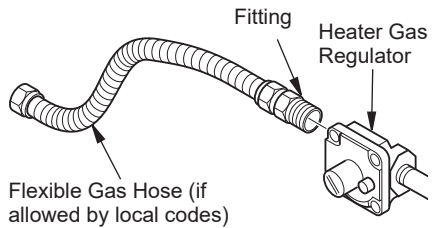

Figure 12 - Attaching Flexible Gas Hose to Heater Gas Regulator
5. Apply pipe joint sealant lightly to fitting threads. Connect approved flexible gas hose to gas regulator of heater (see Figure 12, page 13). *Note: Never apply pipe sealant to flare fitting threads. Hold gas regulator with a wrench when connecting flexible gas hose.*
6. Attach base assembly to fireplace floor using two masonry screws provided in hardware package (see Figure 12).